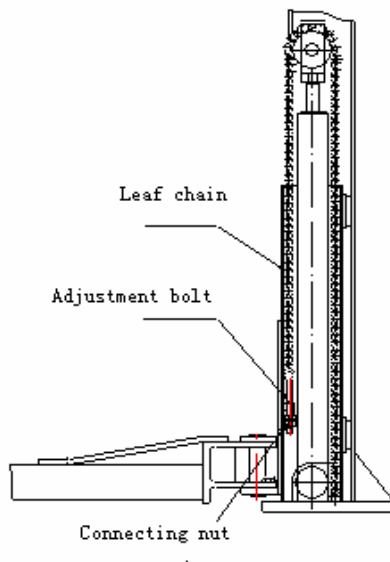

Fig.6
- Check to see if the connection between hydraulic cylinder and carriage is proper, if the connecting nut between the steel chain and carriage is loose or falling. Refer to Fig.6